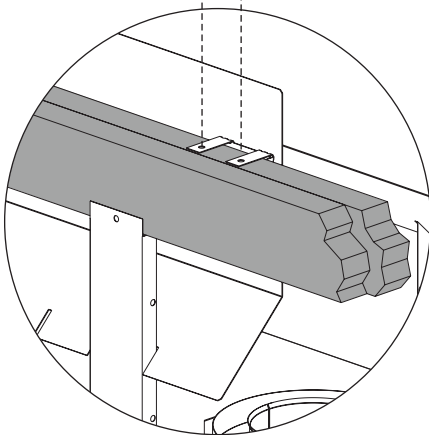

Figure 28
3. Attach header shields to headers using eight 1-inch Phillips screws included. **See Figures 28 and 29.**